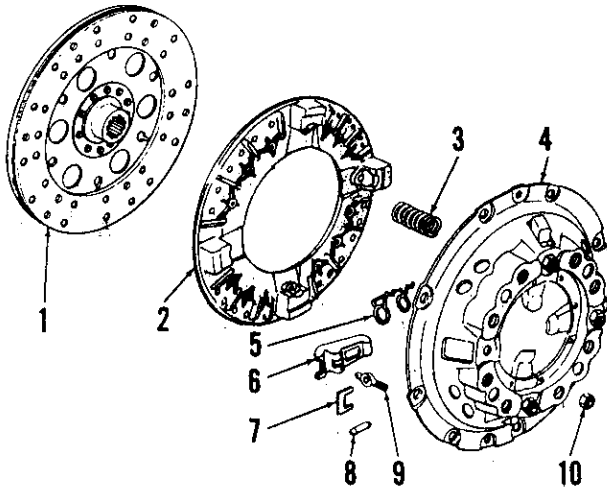
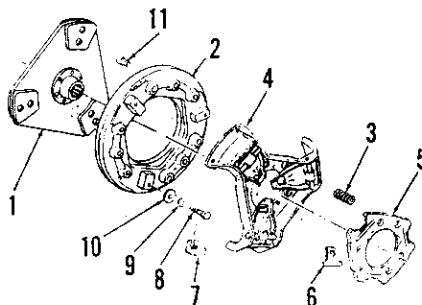
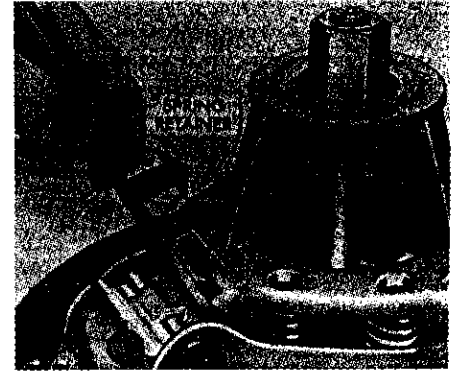
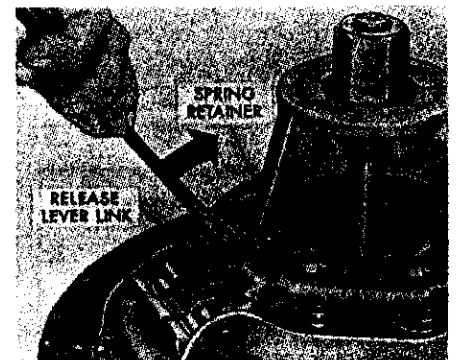

Fig. 173—Exploded view of early type single disc clutch used on three cylinder models so equipped.
Fig. 174—Exploded view of the (Cerametallic) single disc clutch.
Fig. 175—When disassembling cerametallic clutch, pry spring retainer to side as shown by heavy arrow, until lever link can be unhooked.
Fig. 176—Unhooking lever link.
Early type clutches used a full cover with four release fingers, and clutch disc facings were a full circle fibrous type as shown in Fig. 173. Beginning with October 1969 production, and continuing through August 1971 production, a ceramic button ("cerametallic") clutch was installed which uses a skeleton type cover with three release fingers as shown in Fig. 174. The "cerametallic" clutch units are not interchangeable with the earlier (prior 10/69) units and both the flywheel and clutch shaft must be renewed if the "cerametallic" type clutch is installed in early models. Beginning with September 1971 production, the "cerametallic" clutch was discontinued and a clutch similar to the early full circle (prior 10/69) clutch was installed. However, clutch disc of the latest full circle type is not interchangeable with the early type as it has square cut splines which fit the current clutch shaft that was introduced with the "cerametallic" clutch.
on clutch disassembly tool. On models with full cover, refer to Fig. 173 and remove the four finger adjusting nuts (10).
On (Cerametallic) units carefully depress spring retainer (5—Fig. 174) until it clears clutch cover (4) by approximately ¼-inch at nearest point. Using a screwdriver or similar tool, pry spring retainer sideways away from release lever pivot (Fig. 175), and unhook each lever link (Fig. 176) in turn, until all three are disconnected.
NOTE: It may be necessary to thread adjusting screws (8—Fig. 174) into pressure plate for additional finger clearance.
On all models, slowly release the pressure and disassemble cover unit. On late models, DO NOT remove release levers or pivot pins from clutch cover (4—Fig. 174); unit is available only as an assembly. Other parts of all clutches are available individually.